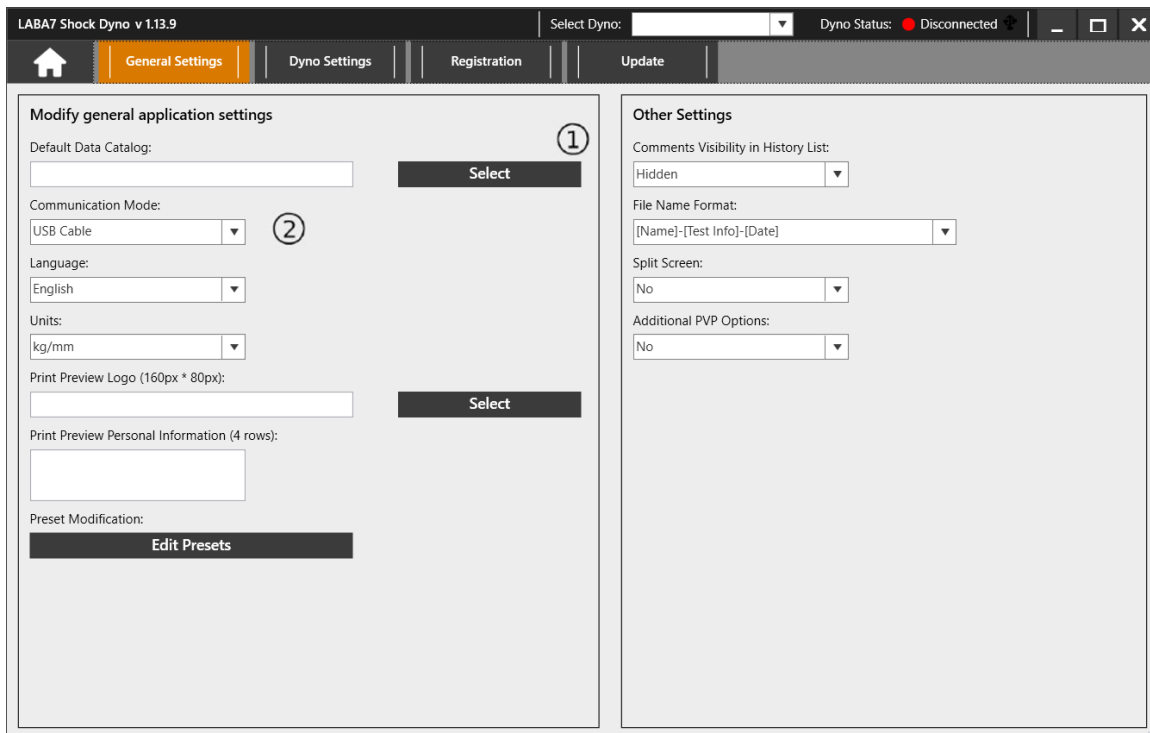

Figure 16
3. In the General Settings tab, select the Default Data Catalog by clicking on the Select button (Figure 16 – Step 1). This catalog will be used to store test data files.
4. Select Communication Mode by clicking on the drop-down menu (Figure 16 – Step 2):